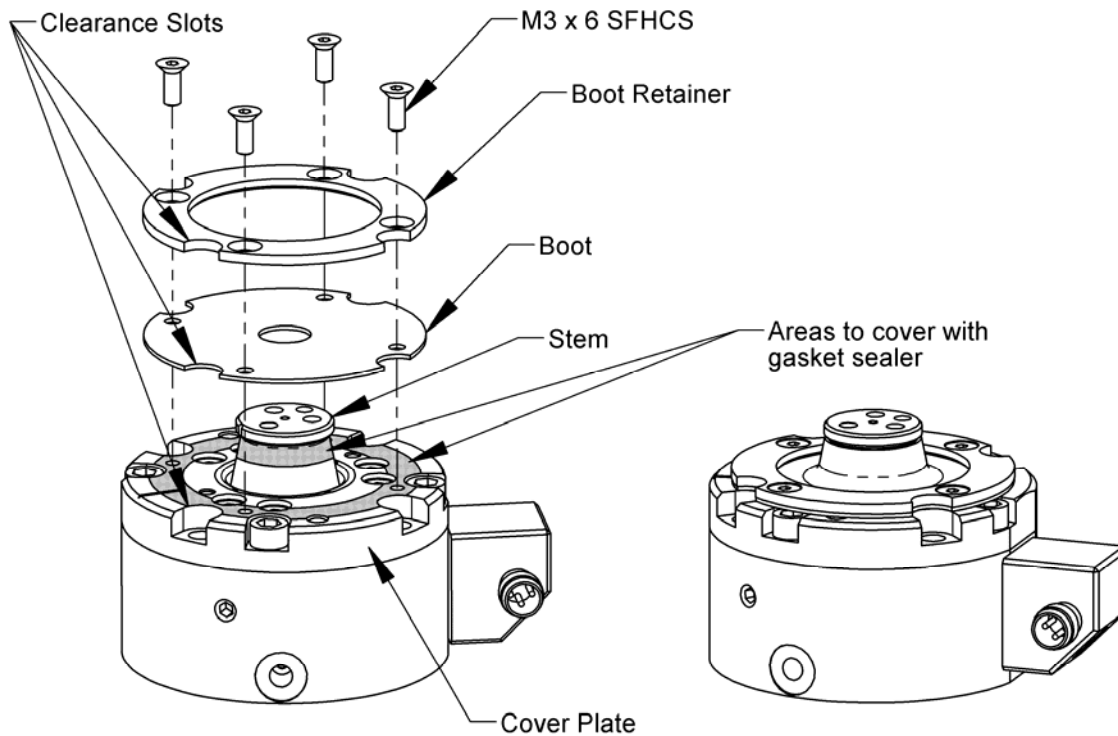

Figure 5.10—IP65 Boot Replacement
1. Remove four (4) M3 x 6 SFHCS and Shield Retainer (see figure 5.10).
1. Apply Permatex® Grade 2 gasket sealer to top of Stem below flange and to center band of Cover Plate (see Figure 5.10).